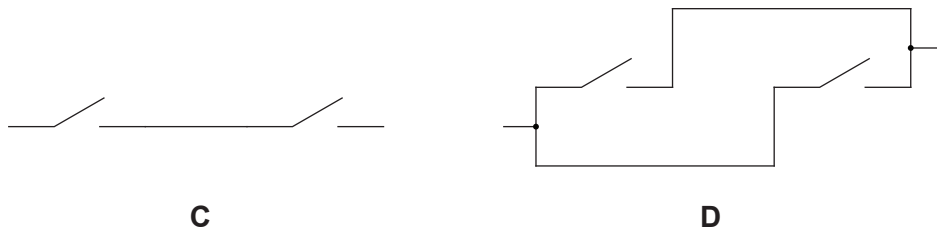

Fig. 8.1
- 8 Fig. 8.1 shows two methods of connecting switches in a circuit.